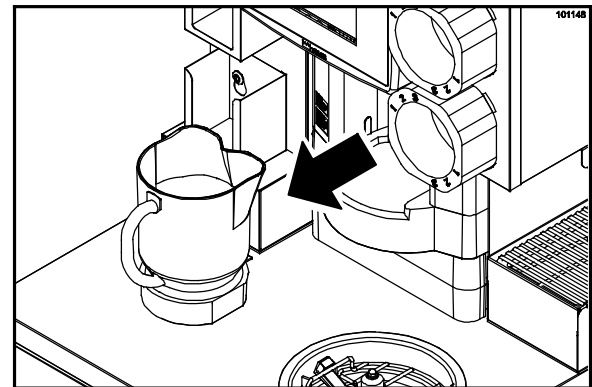

Figure 116
67. Remove the blender pitcher and discard the product into the back sink. **Do not pour the product down the rinse station drain.** (See Figure 116.)